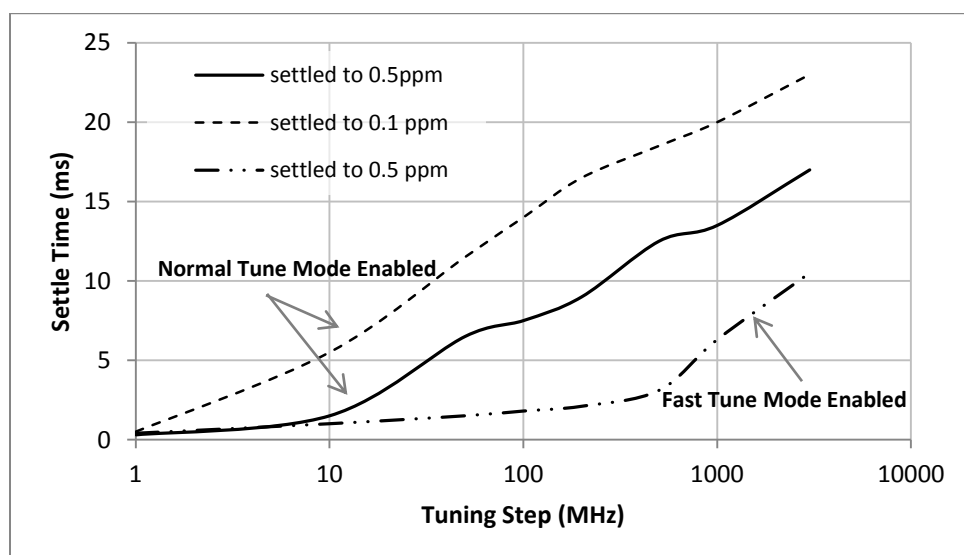

Figure 2. Typical frequency settling time versus tuning step with a 3600 MHz final frequency.
- (3) To give users flexibility, the device has three resolution modes; two coarse modes and one fine mode. The coarse modes using fractional N PLL's allow 1 MHz and 25 kHz steps, while the fine mode (aided by a DDS) provides 1 Hz resolution. All modes provide exact synthesized frequencies. See the appropriate sections of this manual for further information.
- (4) Locked and settled to < 1 ppm of final frequencies of > 500 MHz for step size of < 10 MHz. For final frequencies < 500 MHz the settle time applies to accuracy within 500 Hz of the final frequency for a < 10 MHz step size. See Figure 2 for examples of other tuning step settling times. When fast-tune mode is enabled the noise damping capacitor across the main YIG tuning coil is disengaged, resulting in an increase of the rate of current flow through the coil and settling to a steady state quicker. Lock time begins when the full tuning word command is received by the device.